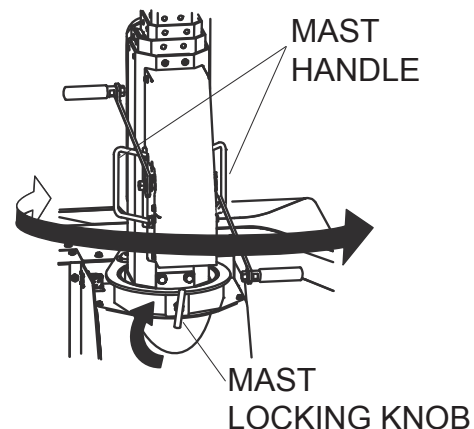

Figure 8. Rotating the Mast
5. With the mast in full vertical position, unscrew the mast locking knob to release the mast for rotation (Figure 8).